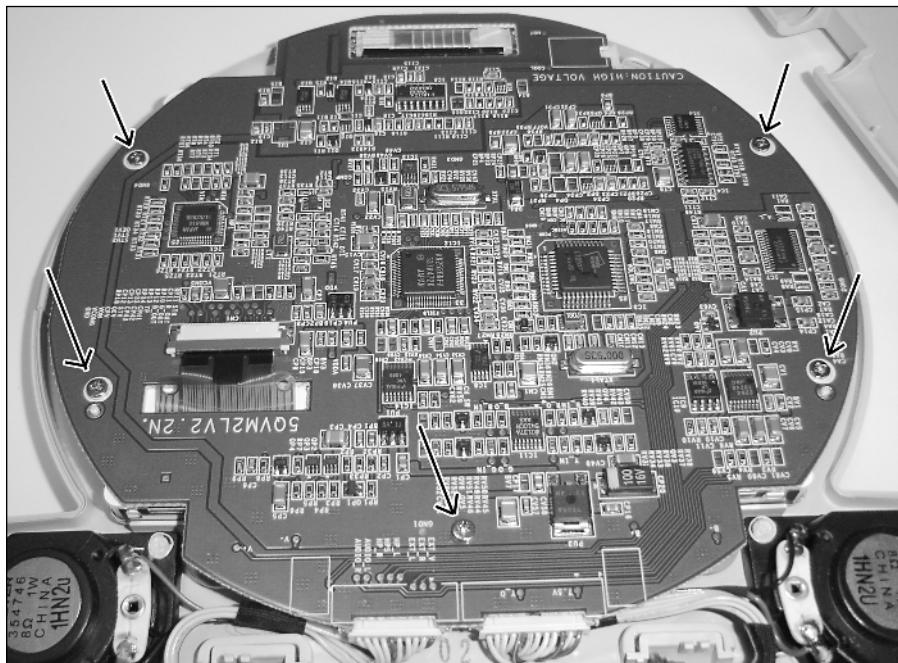

FIGURE 4-21: The next set of screws to remove.
3. Use your fingernail or a flat-head screwdriver to peel the case open; there are tabs holding it on the sides and top. Set the rear plastic aside, and you'll see what looks like Figure 4-21. Remove the five indicated screws.